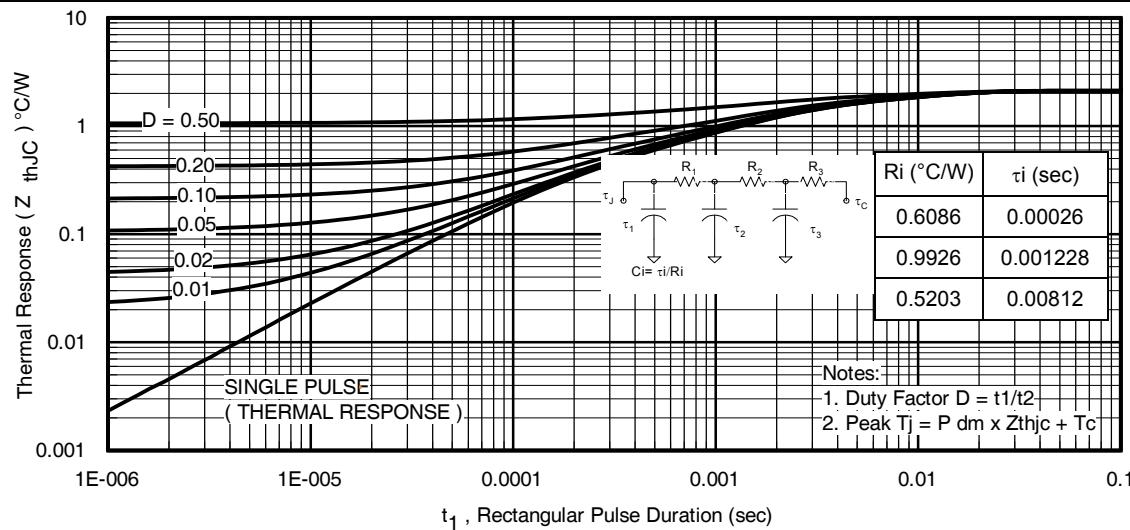

Fig 13. Maximum Effective Transient Thermal Impedance, Junction-to-Case
7. ΔT = Allowable rise in junction temperature, not to exceed T_{jmax} (assumed as 25°C in Figure 13, 14).
$Z_{thJC}(D, t_{av})$ = Transient thermal resistance, see Figures 13)